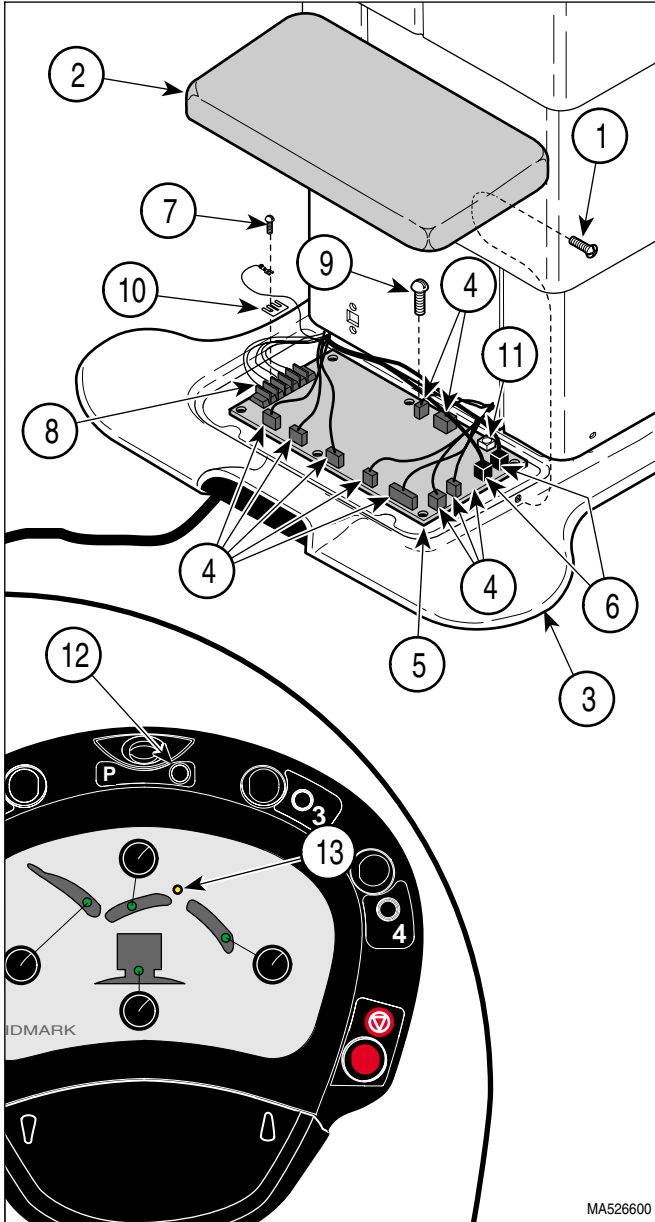

Figure 4-4. PC Control Board Removal / Installation (Programmable Tables Only)
- (1) Unplug table power cord from outlet receptacle.
- (2) Remove two screws (1, Figure 4-4) and PC board cover (2) from base casting (3).
- (3) Tag and disconnect ten wire harnesses (4) from PC control board (5).
- (4) Tag and disconnect two modular cords (6) from PC control board (5).
- (5) Loosen terminal screws (7); then tag and disconnect wires (8) from terminals of PC control board (5).
- (6) Remove six screws (9) and PC control board (5) from base casting (3).